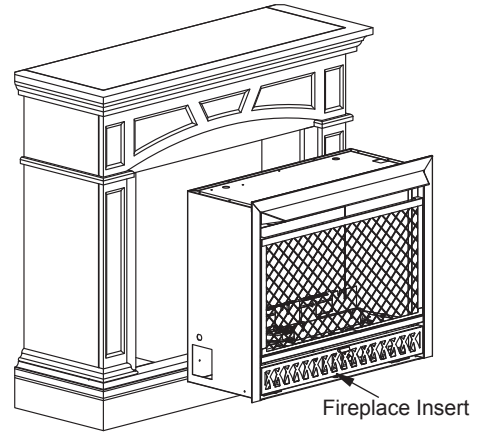

Figure 6
6. After assembling the mantel, lift to the upright position. Carefully, push the fireplace insert from the front of the mantel as shown in Figure 6.